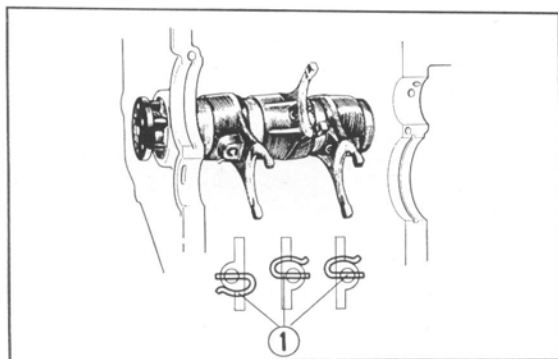

Fig. 128 ① Guide pin clips
- Place the counterbored section of the shift drum as shown Fig. 128, and install the steel ball, the spring cap, and the spring then lock with the shift drum screw.